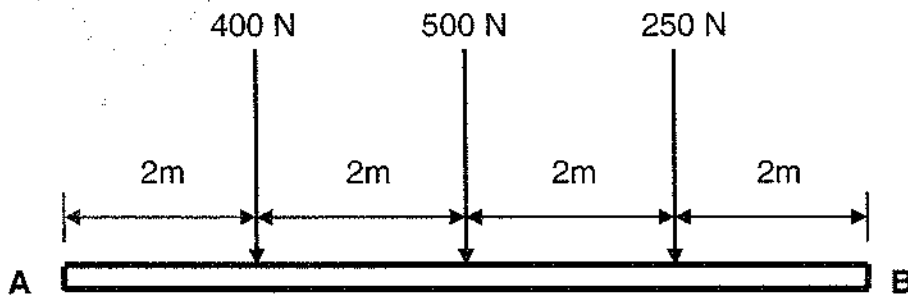

FIGURE 4
- 7.2 Determine, by means of the link polygon method, the position and magnitude of the resultant of the three forces acting on the beam A – B shown in FIGURE 4, ANNEXURE A (attached). Show clearly the direction of the resultant and the distance from the left-hand end A of the beam.